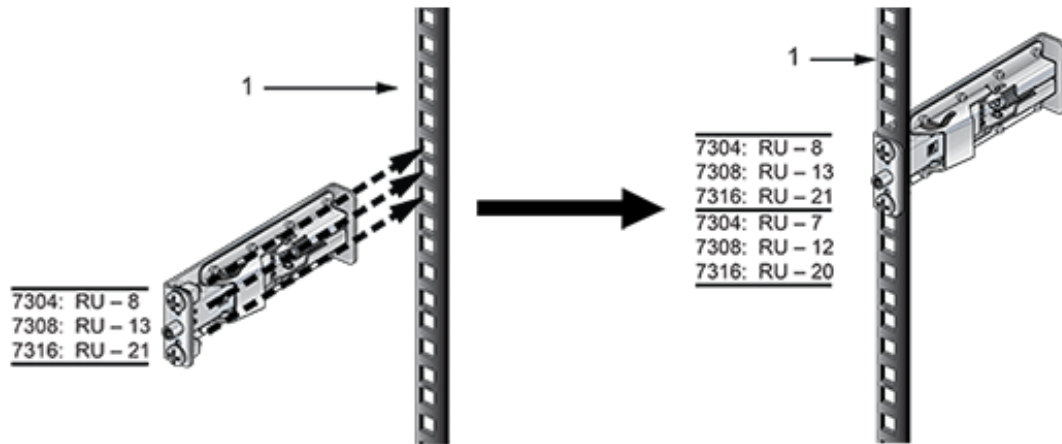

Figure 13: Attaching the Right Mounting Ear
1. Install the mounting ear on the front post by inserting the front rack plugs (if present) and guide pins in the racks specified for the switch model that is being installed (Figure 13: Attaching the Right Mounting Ear).